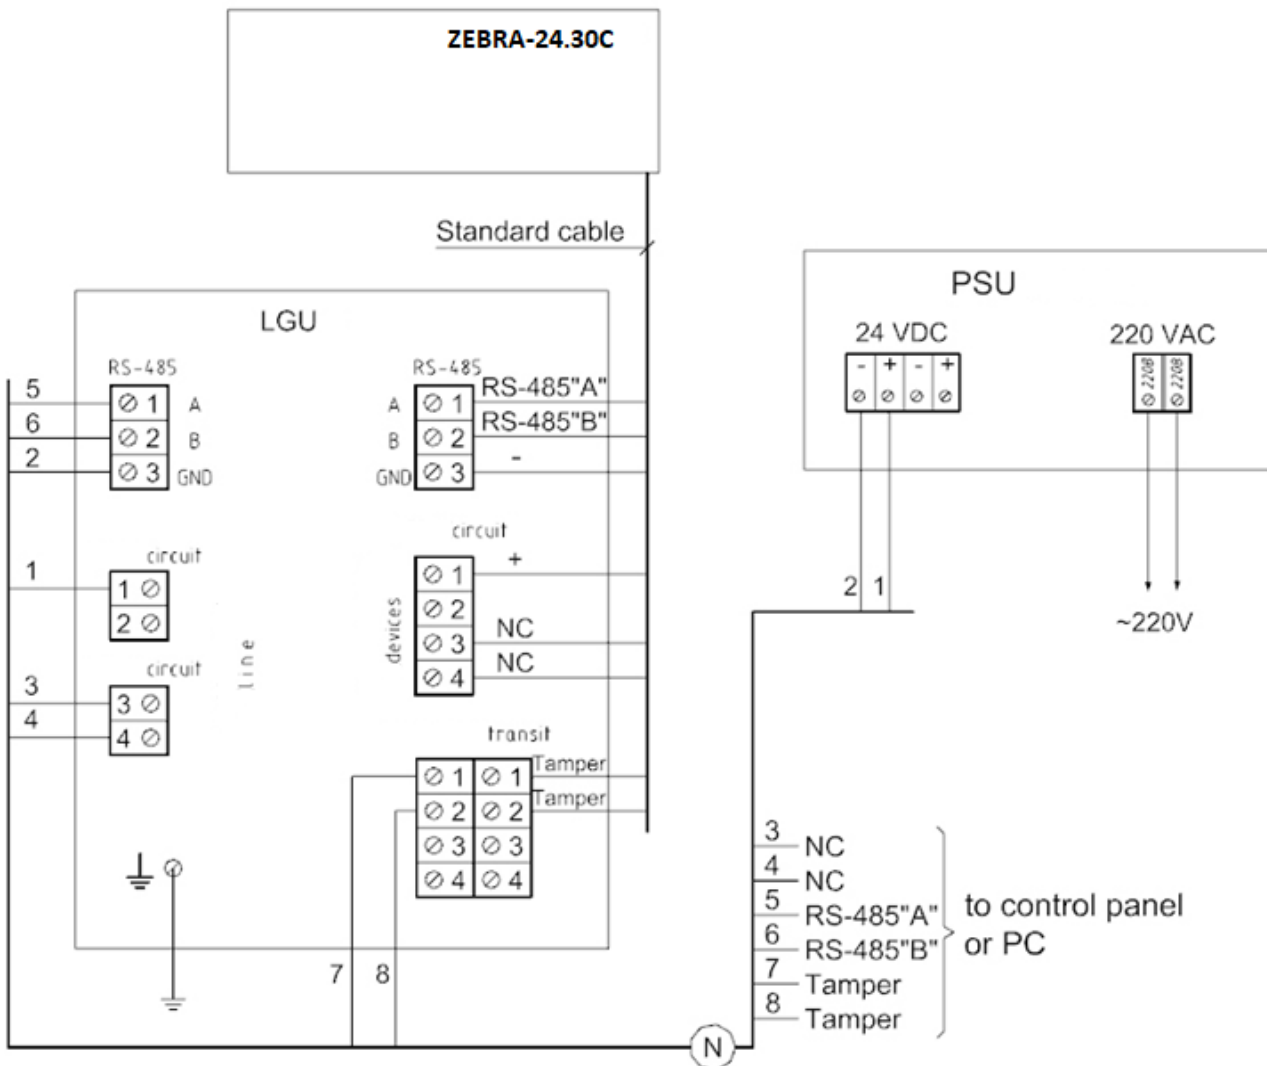

Figure 2.6 – Connection diagram using LGU
2.3.6.4 Figure 2.6 shows the connection diagram using the lightning guard unit and the power supply unit.